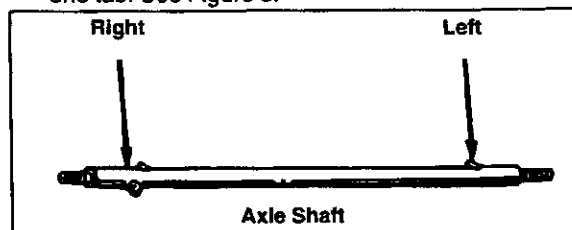

Figure 8
- The rear axle shaft has a right side and a left side. The right side has two tabs and the left side has one tab. See Figure 8.